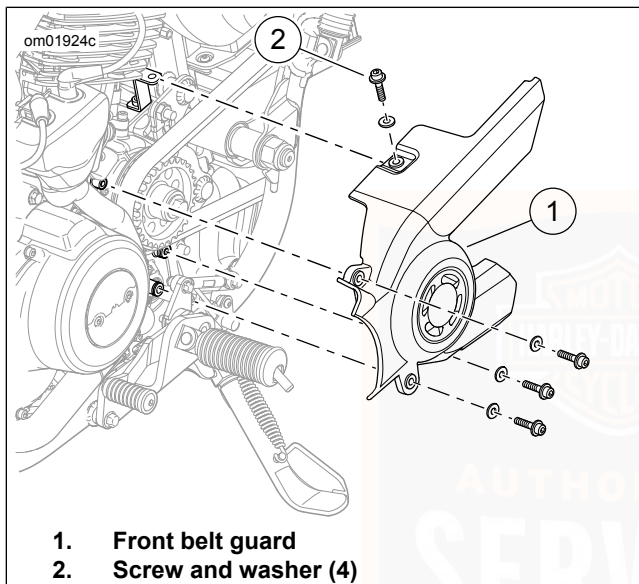

Figure 46. Front Belt Guard
7. See Figure 46. Remove front belt guard.
- a. Remove screws and washers (2).
- b. Remove front belt guard (1).
9. See Figure 46. Position front belt guard (1). Install screws and washers (2).